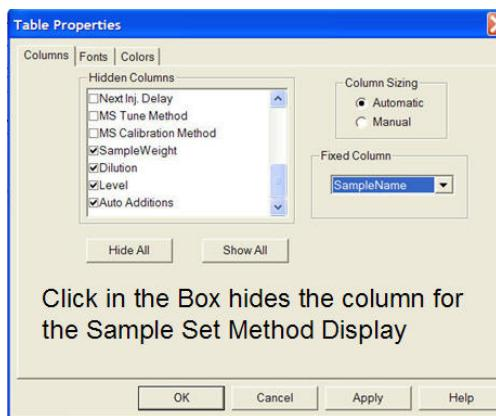

Figure 7 - Table Properties window
5. Select the check boxes shown in Figure 7, and any other columns that do not need to be displayed, and then click **OK**.